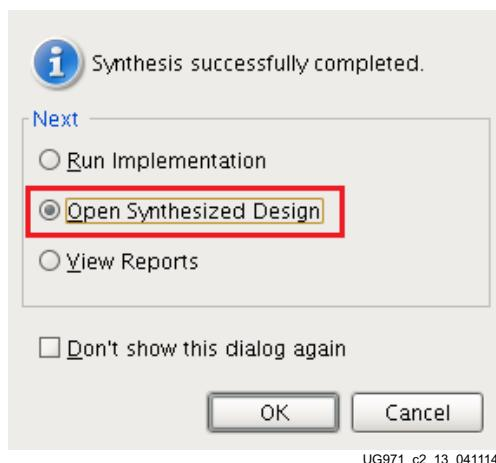

Figure 2-13: Synthesis Completed
15. When synthesis is done, a Synthesis Complete window pops up. Select **Open Synthesized Design** and click **OK** (Figure 2-13).